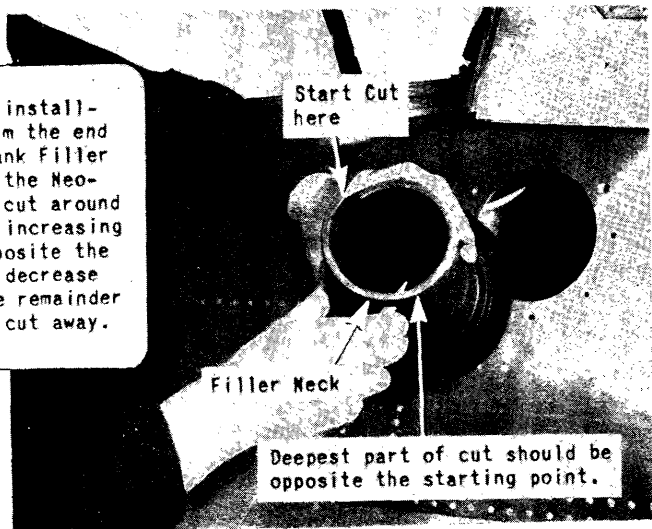

Figure 228 - Trimming Filler Neck Prior to Installation
(1) Before installing the filler neck, inspect it for breaks and deterioration. If, after inspection, it is deemed necessary to install a new filler neck, the neck's inboard end must first be trimmed with a knife. Grasp the filler neck (figure 228) and start the cut as shown. Increase the depth of the cut until opposite the starting point and then decrease the depth of the cut for the remainder of the circumference of the neck. The depth of the cut should never exceed 1/2 inch. The old filler neck may be used as a guide for making this trim.
(2) Brush a generous coating of a dissolved mild soap flakes and water mixture on both the inside and